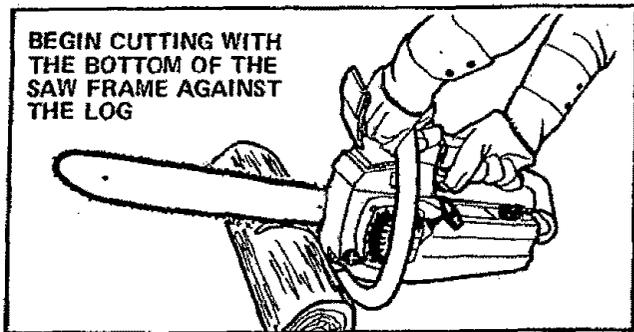

Figure 22
- b. **Begin cutting with the saw frame against the log.** Figure 22.